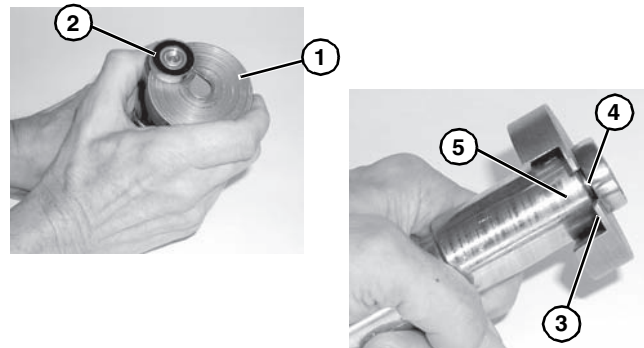

Figure 35
1. Place bearing removal tool part #456063 (Figure 35, item 1) below bearing (Figure 35, item 2) with lip (Figure 35, item 3) located in gap (Figure 35, item 4) between bearing and spindle hub (Figure 35, item 5) as shown.